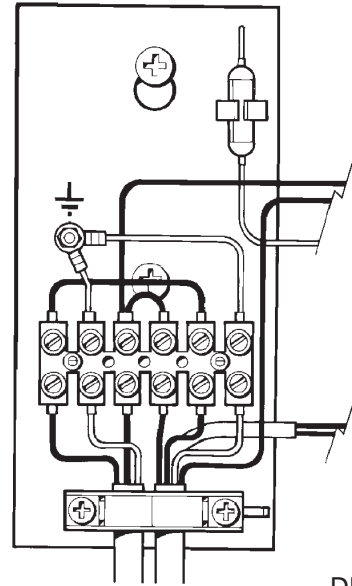

FIG. 7
SEE FIG. 7
1. Make electrical connections to terminal strip as wiring diagram. (See Fig. 7).